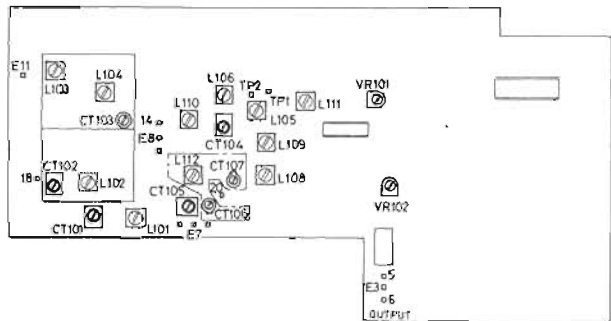

Fig. 2-1
1. Connect the oscilloscope and AC voltmeter to the output terminal. Feed 450 kHz signal from the AM signal generator to pin 14. (Fig. 2-1). Adjust AM IFT, L108, L109 and L111 to obtain maximum output.